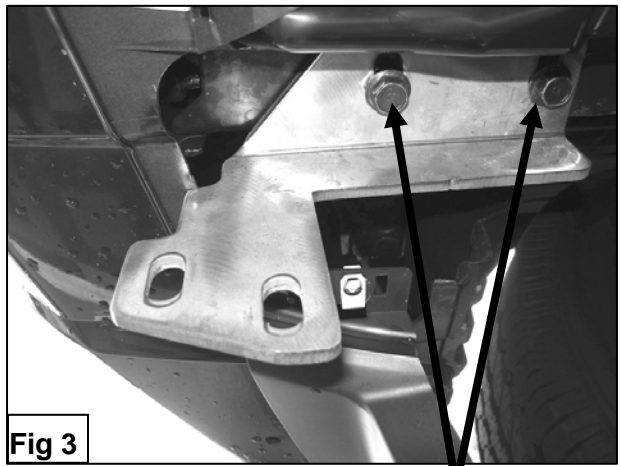

Fig 3
4. Locate the passenger side Mounting Bracket and partially hang it from factory threaded holes on the frame rail using the included (2) 12-1.25 x 35mm Hex Head Bolts (fine thread), (2) 12mm Lock Washers, and (2) 12mm Flat Washers (**Figure 3**). Repeat this step for driver side.